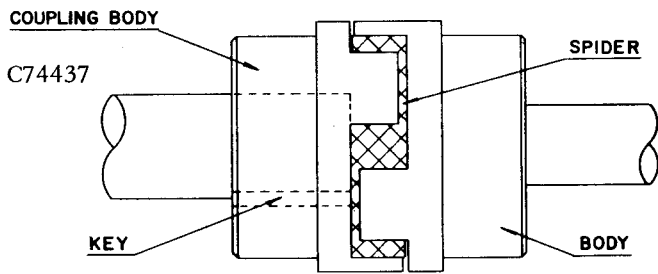

FIGURE 1-7. — COUPLING —
**COUPLING** (Figure 1-7) — The motor and compressor are direct connected by a resilient cushion-type flexible coupling. The coupling does not require lubrication. On Models ESG, ESH and ESJ the coupling cushion member is a one-piece spider-type construction.